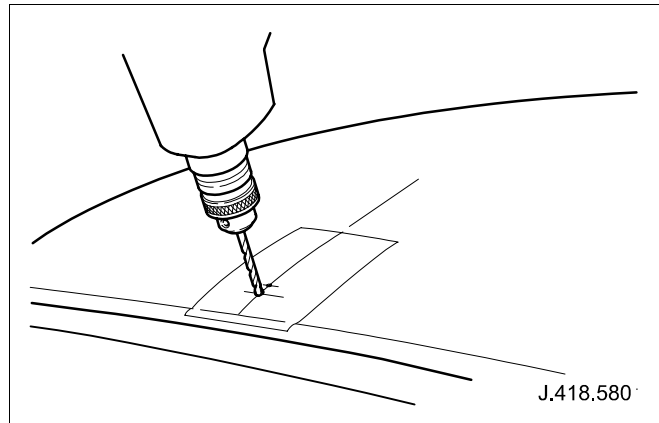

Fig. 9
- 22 Carefully drill 3mm diameter pilot hole through roof panel at previously marked 32mm position. (See Fig. 9)